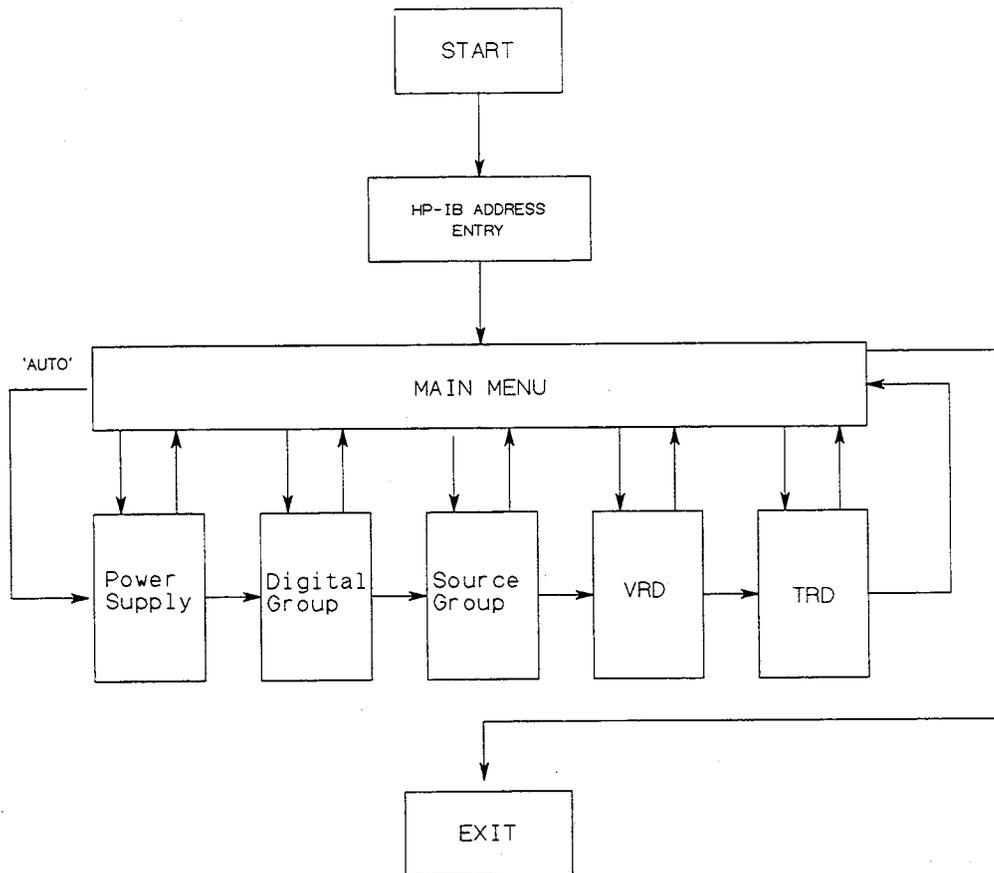

Figure 3-14. Flow-chart
**Flow-chart:** The basic flowchart of the faulty board isolation program is shown in Figure 3-14.